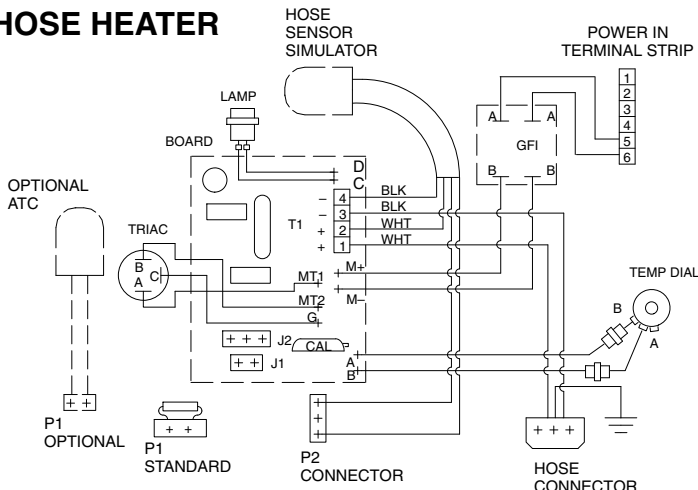

Fig. 21
5. Disconnect the heater element wires at terminal block T1. See Fig. 21.
6. Unplug the power wires (RES wire no. 11 and 12; ISO wire no. 21 and 22) from the circuit breaker (210 or 319). See Fig. 21.
5. Reinstall the heater element wires into terminal block T1, in the positions indicated in Fig. 21.
Heater No. 235-840 is shown in Fig. 21. The wiring for Heater No. 235-839 is identical except the second set of elements (wires 9, 10, 19, 20) are not used.